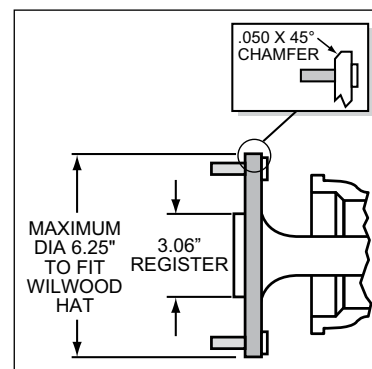

Figure 2. Axle Flange Maximum Dimension
- Maximum axle flange diameter must be no larger than 6.25" w/.050" x 45° chamfer, Figure 2.